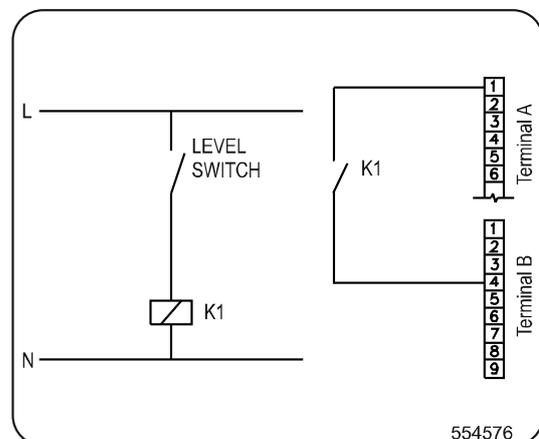

Figure 20
- This option is not obligatory. However, it is advisable to install a level switch. This level switch must be connected to the microprocessor by means of a potential-free contact, see Figure 20.